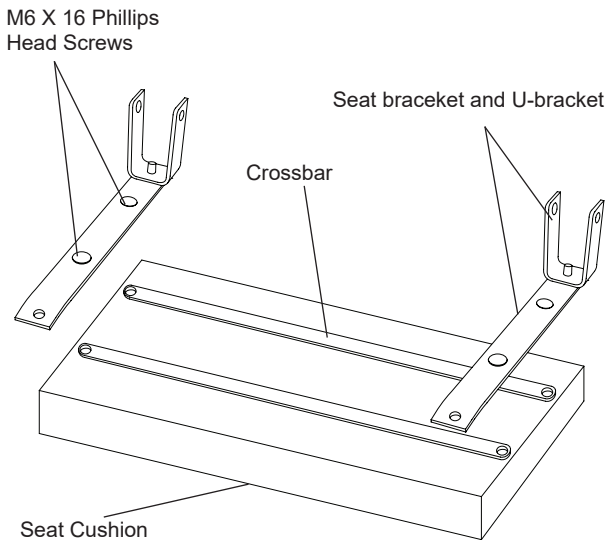

Figure 1 - Attaching U-brackets
1. With the Seat Cushion facing down, align the holes of the Crossbars with the seat. Then align the holes of the Seat Supports Bars and attach with four M6 x 16 Phillips Head Screws as shown in Fig. 1.